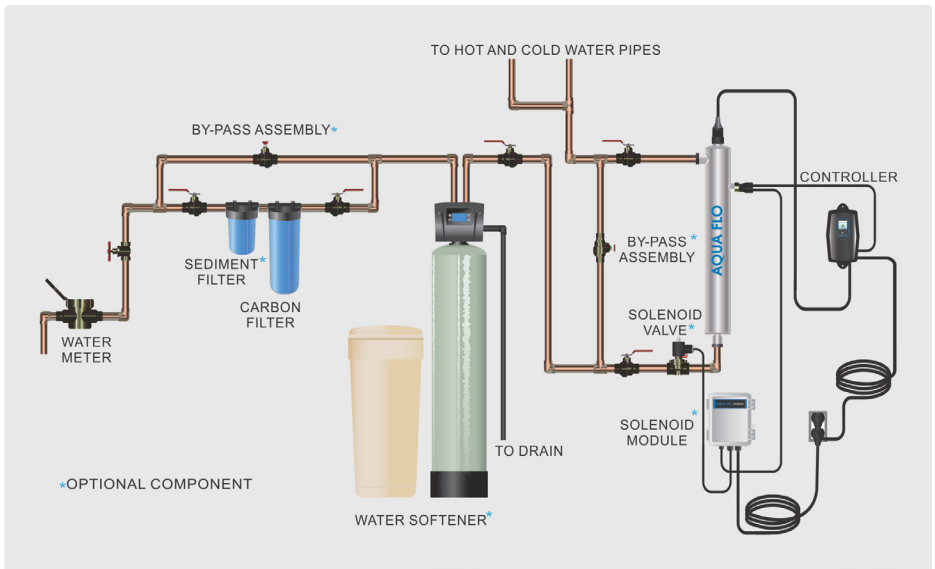

Figure 1. Recommended POE Installation Location
For Point of Entry (POE) systems, choose a location where the main cold water line is accessible. The system must be installed after other water treatment equipment (softener or filters), but before any branches (See Figure 1). For Point of Use (POU) systems, install the unit just before the faucet. AQUA FLO recommends that a 5 micron filter be installed **before** the UV system for a final polishing step before the water is disinfected.
Step 10: Mount the controller to the wall so it is above or beside the reactor to ensure that no moisture can deposit on any of the connections (see Figure 1). Always mount the controller vertically. For monitored systems, insert the sensor connector into the IEP port located on the right side of the controller (Figure 6). For the sensor to be recognized by the controller, the controller power must be plugged in last. **Do not plug the controller power cord in before the last step.**